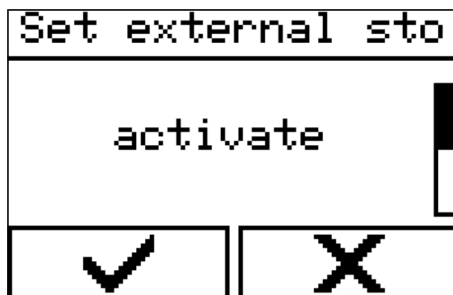

Fig. 106: Activating the stop input
2. ➔ Select 'Activate stop input' (Fig. 106).
3. ➔ Select 'Deactivate stop input' (Fig. 106).